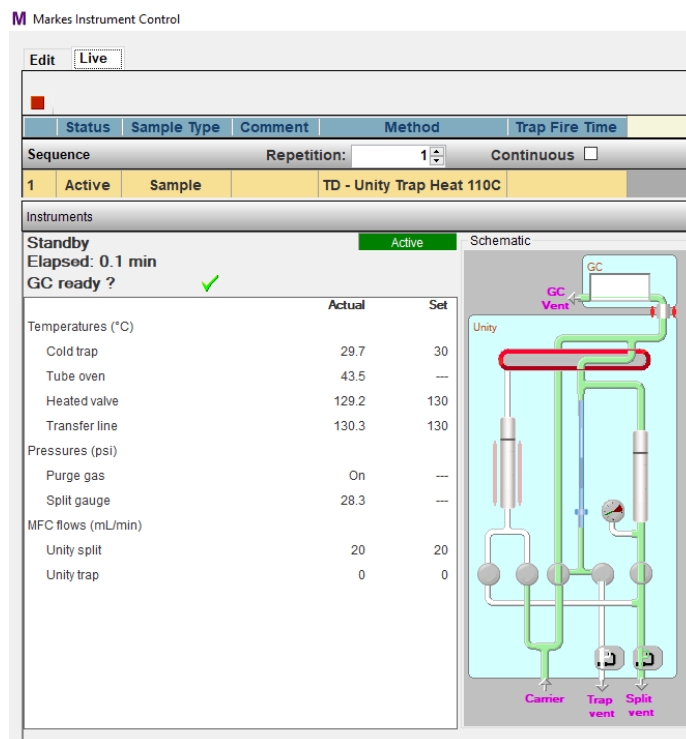

Figure 5. MIC sequence builder menu once the sequence has begun.
3.2.5 The instrument’s status will change to “Active” and the thermal desorption cycle will begin (Figure 5).